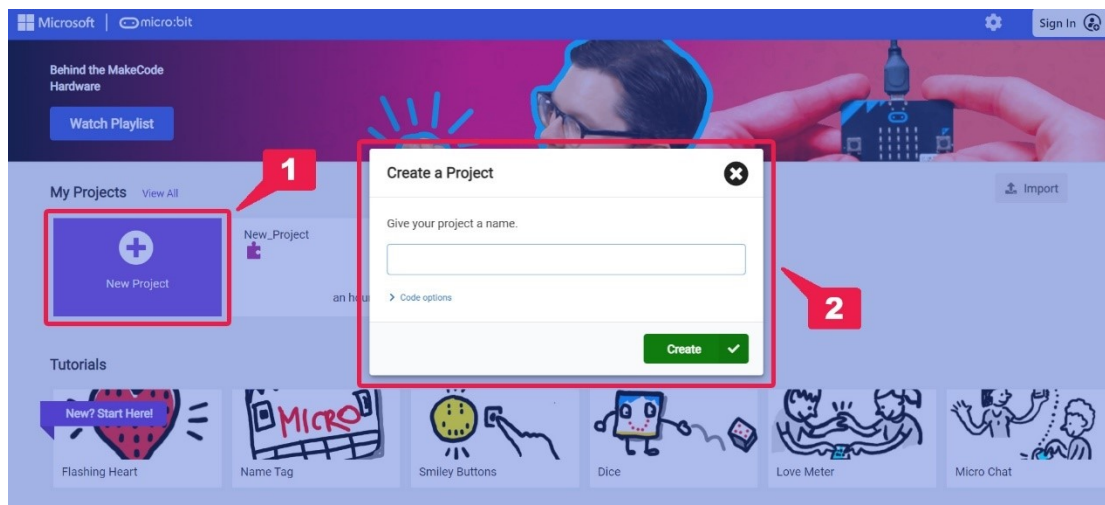

Figure 6: Creating a new project
To create and start working on a new project enter to your browser Makecode’s website address (<https://makecode.microbit.org/>), and at the homepage, click on the New Project tab (1). On the “Create a Project” pop-up menu (2), type a name of your choice for your project, and then click on the “Create” button (Figure 6).